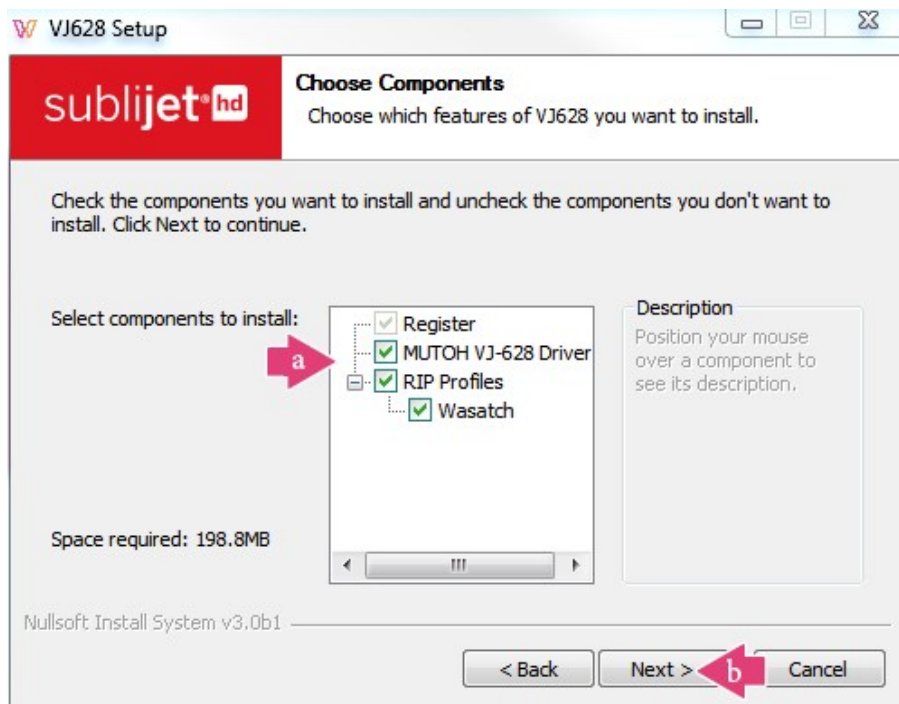

Figure 5
5. Select the components you wish to install (a)(recommended default is preselected). Select **Next (b)** to continue. See Figure 5.